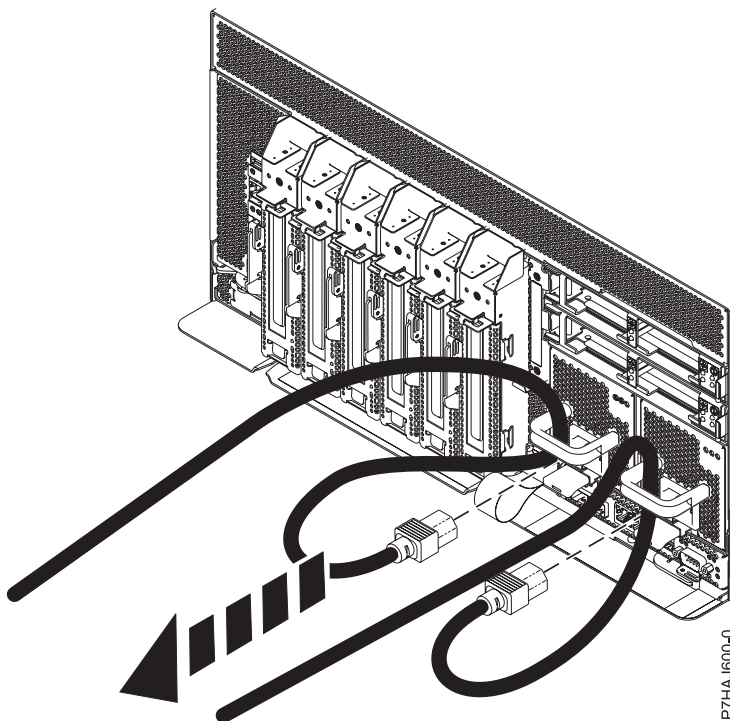

Figure 23. Removing the power cords
3. Disconnect the power cords from the system unit as shown in Figure 23.